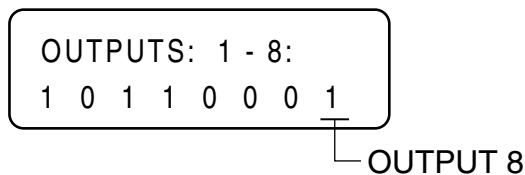

Figure 124. The Output Screen
7. Digital Output 8 is the Wire 23 output from the controller. Refer to Figure 124.